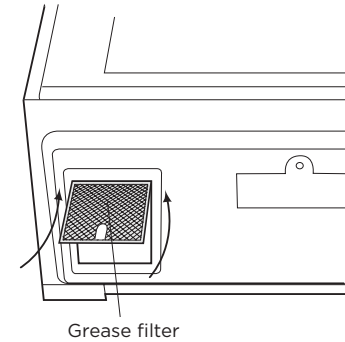

Figure 22
- Install grease filters by fitting into the opening. Push back and up into place. See Figure 22.
⑤